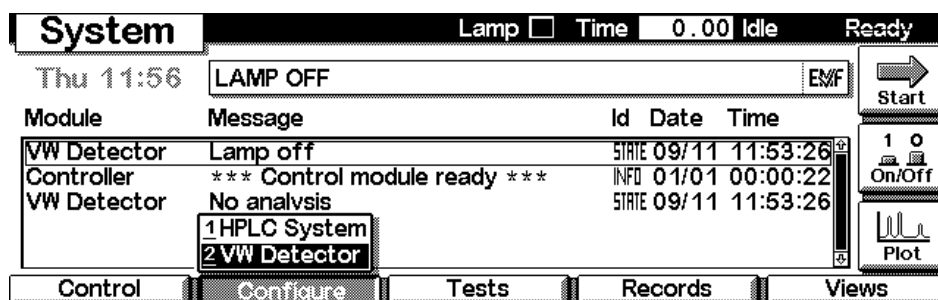

Figure 30 Select module
- 2 Press F2 “Configure”, select the module where the LAN Interface is installed and press the “Enter” key (Figure 30).